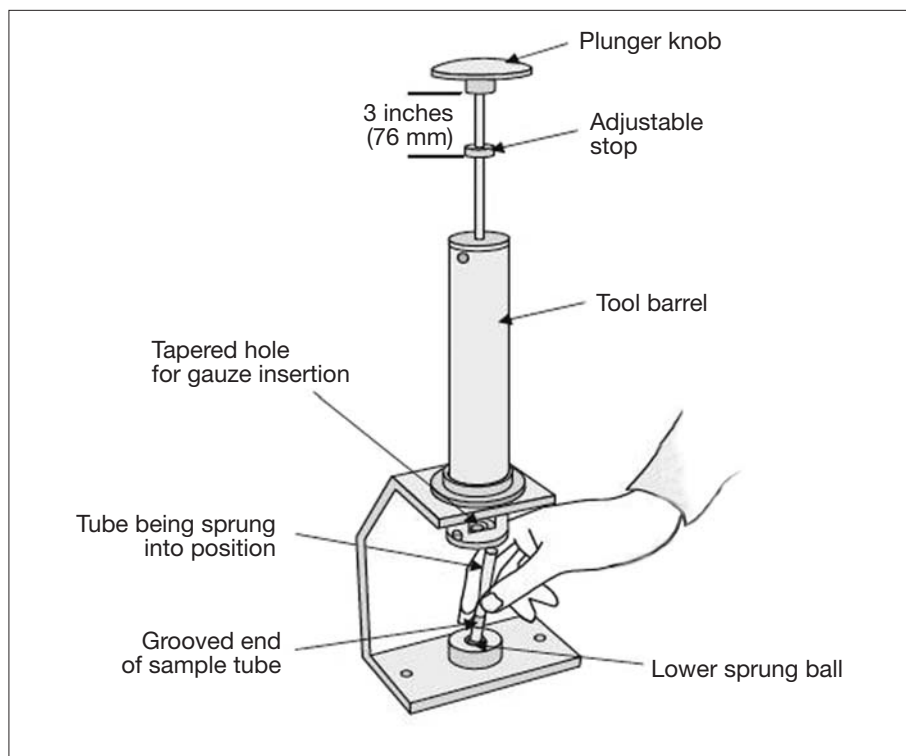

Figure 3. Use of the gauze loading rig.
- Place a clean, empty tube grooved end down on the gauze loading rig as shown in Figure 3.